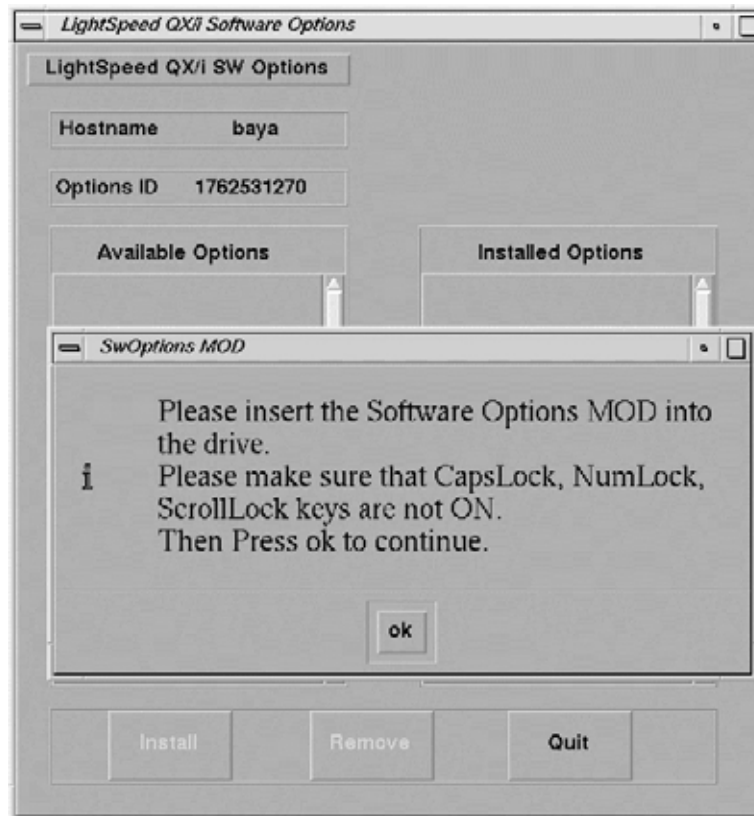

Figure 4-6 Options Window when First Selected
- 4.) Select INSTALL OPTIONS and click START. The console displays the LightSpeed Software Options window as shown in Figure 4-6.
- 13.) Click on the ACCEPT button. The system will check valid setup entries, execute a perl script that makes changes to the configuration files for HIS/RIS, and return to the LightSpeed Software Option window shown in Figure 4-6.